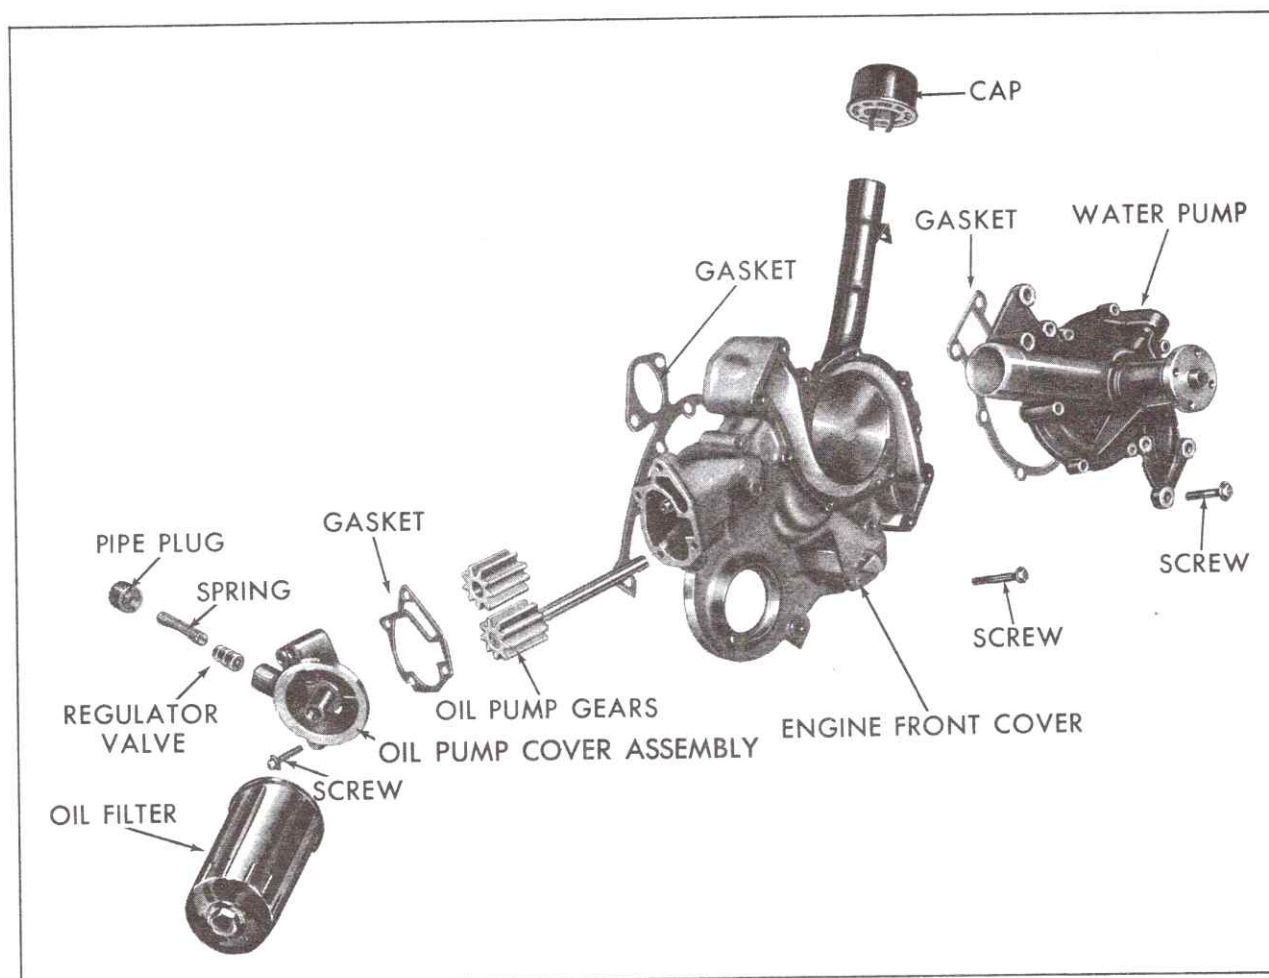

Fig. 6-123 Engine Front Cover Disassembled
1. Remove four cap screws that hold oil pump cover assembly to pump housing and remove cover assembly, Fig. 6-123. Discard gasket.
### b. Disassembly (Fig. 6-123)